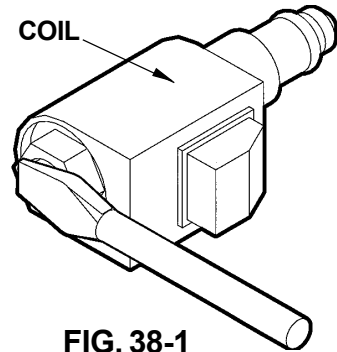

FIG. 38-1
1. Check if Solenoid Valves are constantly energized by touching a screwdriver to the top nut of the Solenoid (**FIG. 38-1**). Try pulling the screwdriver away from the solenoid. If the solenoid nut attracts the screwdriver (magnetically) without pushing the toggle switch, the control circuit is operating incorrectly. Check if toggle switch, wiring or coil are faulty.